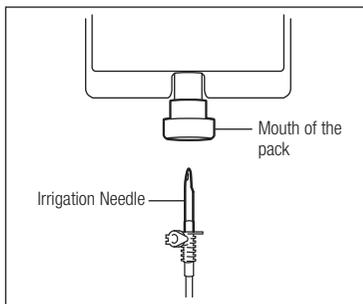

Fig. 10
- 3) Insert the Irrigation Needle into the Pack entry point. (Fig. 10)